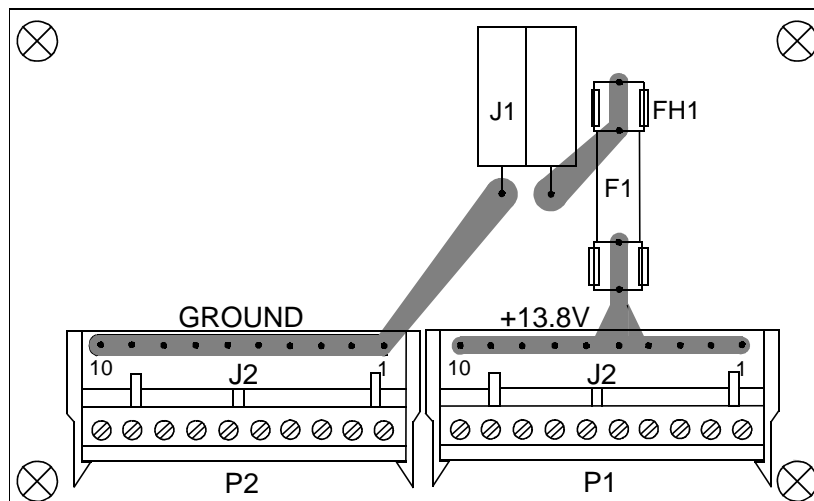

Figure 9-1 RECEIVER SITE POWER SUPPLY COMPONENT LAYOUT
1. Remove connector J1 from the -491 board (see Figure 9-1).